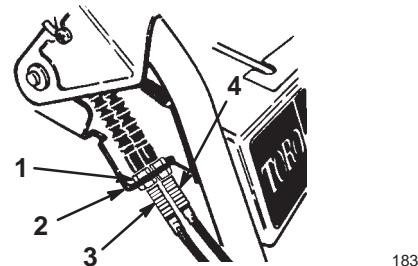

Figure 28
1. Loosen the upper jam nut that secures the traction cable to the mounting bracket (Fig. 28).
2. Rotate the bottom jam nut upward to increase the belt tension (Fig. 28).
- A. Loosen the upper jam nut that secures the auger/impeller cable to the mounting bracket (Fig. 28).
9. On the control cable that corresponds to the belt you are replacing, loosen the jam nuts that secure the cable to the bracket (Fig. 28).